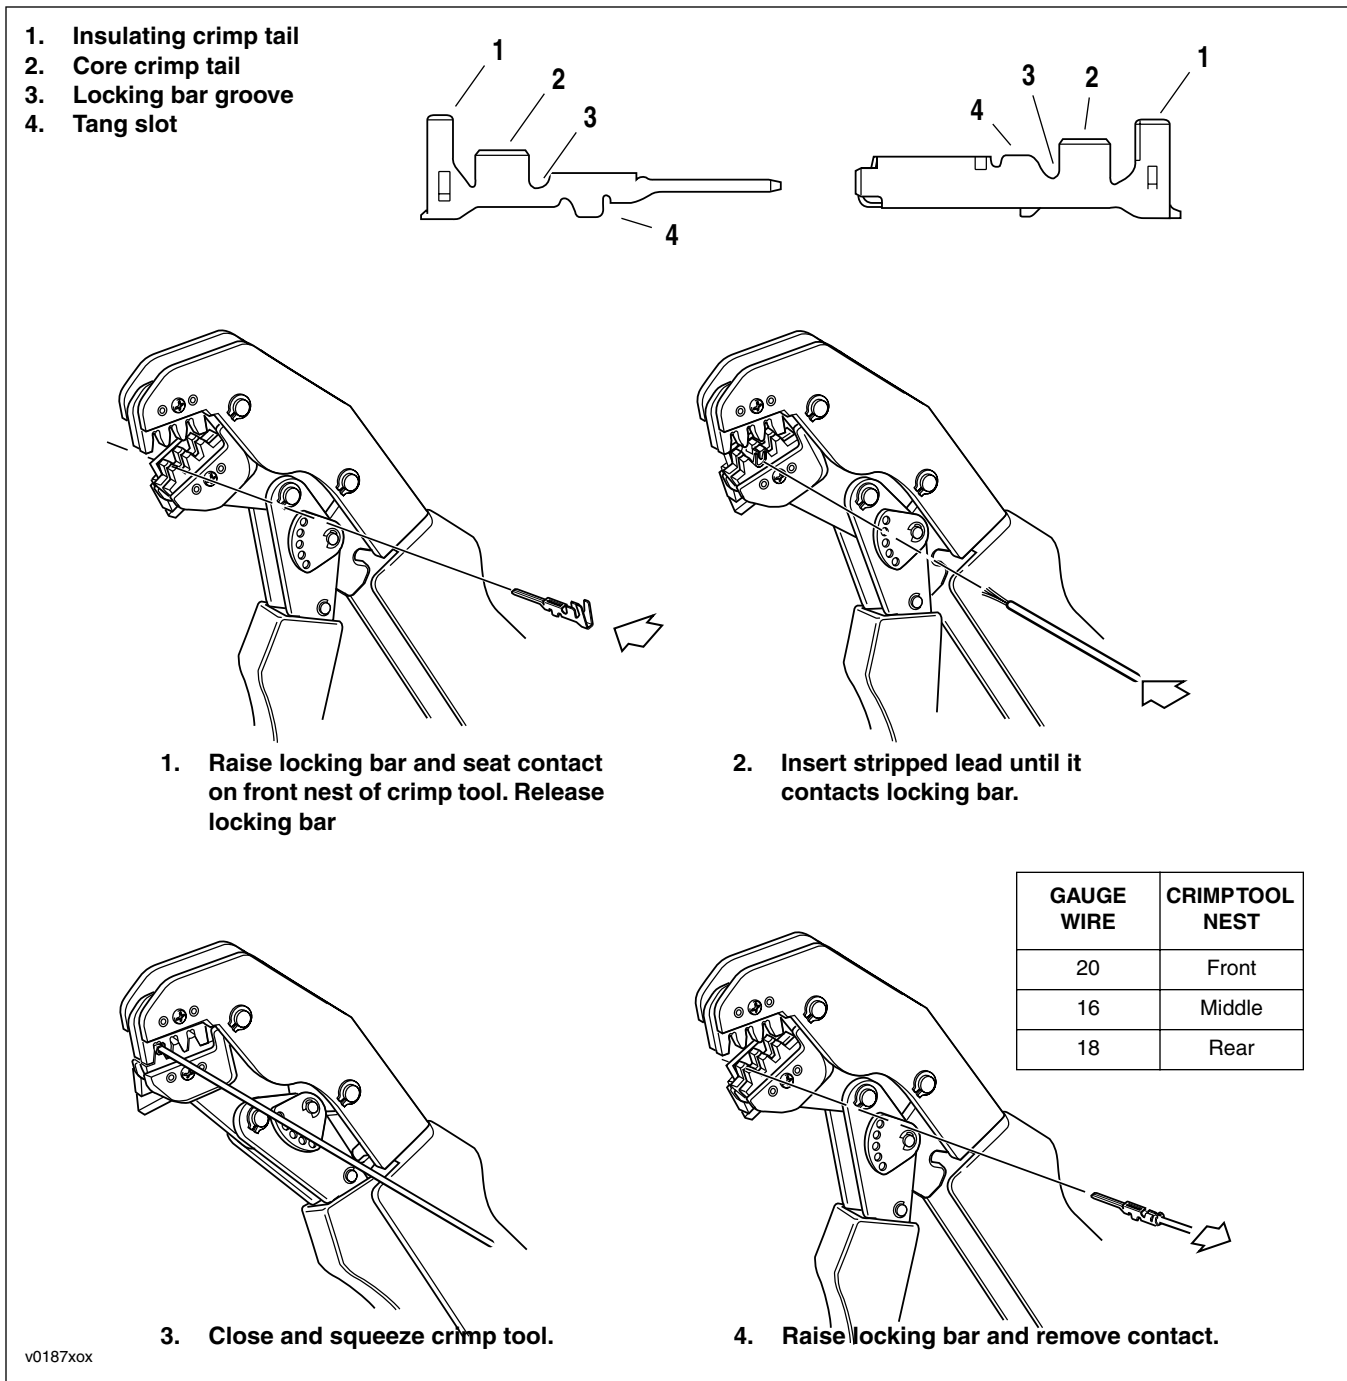

Figure 5-5. Amp Multilock Crimping Procedure
2. Raise locking bar by pushing up on bottom flange. With the crimp tails facing upward, insert contact (socket/terminal) through locking bar, so that the closed side of the contact rests on the front nest (concave split level area of the crimp tool). See Figure 5-5.